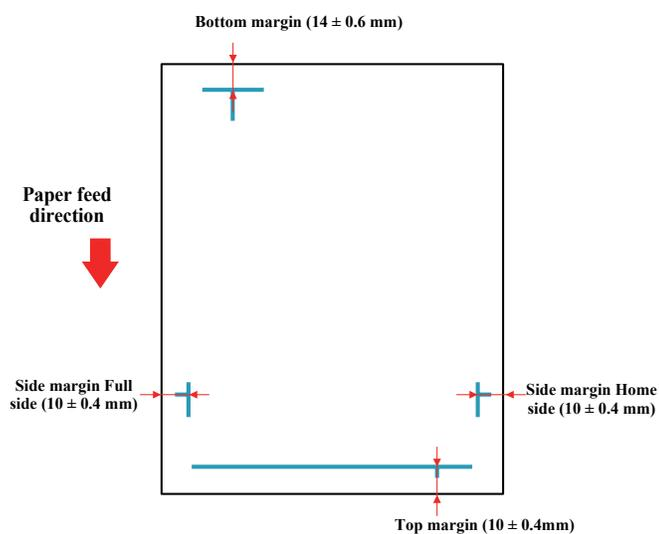

Figure 4-30. Adjustment Pattern
5. Measure the distance for the positions shown in Figure 4-30.